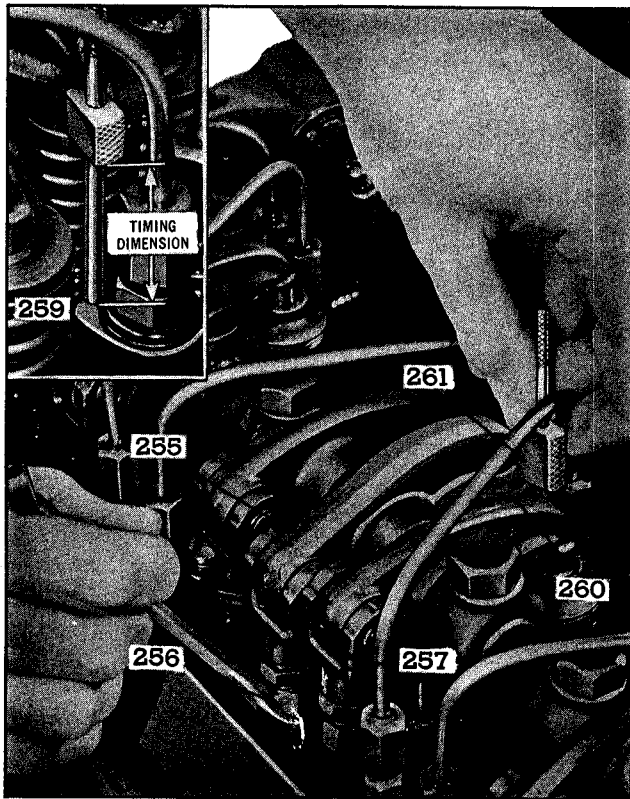

Fig. 3—Timing Fuel Injectors.
- Place small end of injector timing gauge (261) in hole provided in the top of injector body, with flat of gauge toward the injector follower (260) as shown in Fig. 3.
- Loosen push rod lock nut (257).
- Turn push rod (256) and adjust injector rocker arm (255) until the extended part of the gauge will just pass over the top of the injector follower.
- Time remaining injectors as outlined in items 1 through 6.